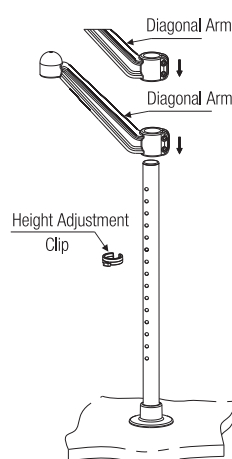

Fig. 2
3. Clip the height adjustment clip on to one of the holes on the vertical pole and slide the diagonal arm on to the pole from top till the bottom face of the arm rests on the height adjustment clip as shown in Fig. 2. Repeat for the second diagonal arm.